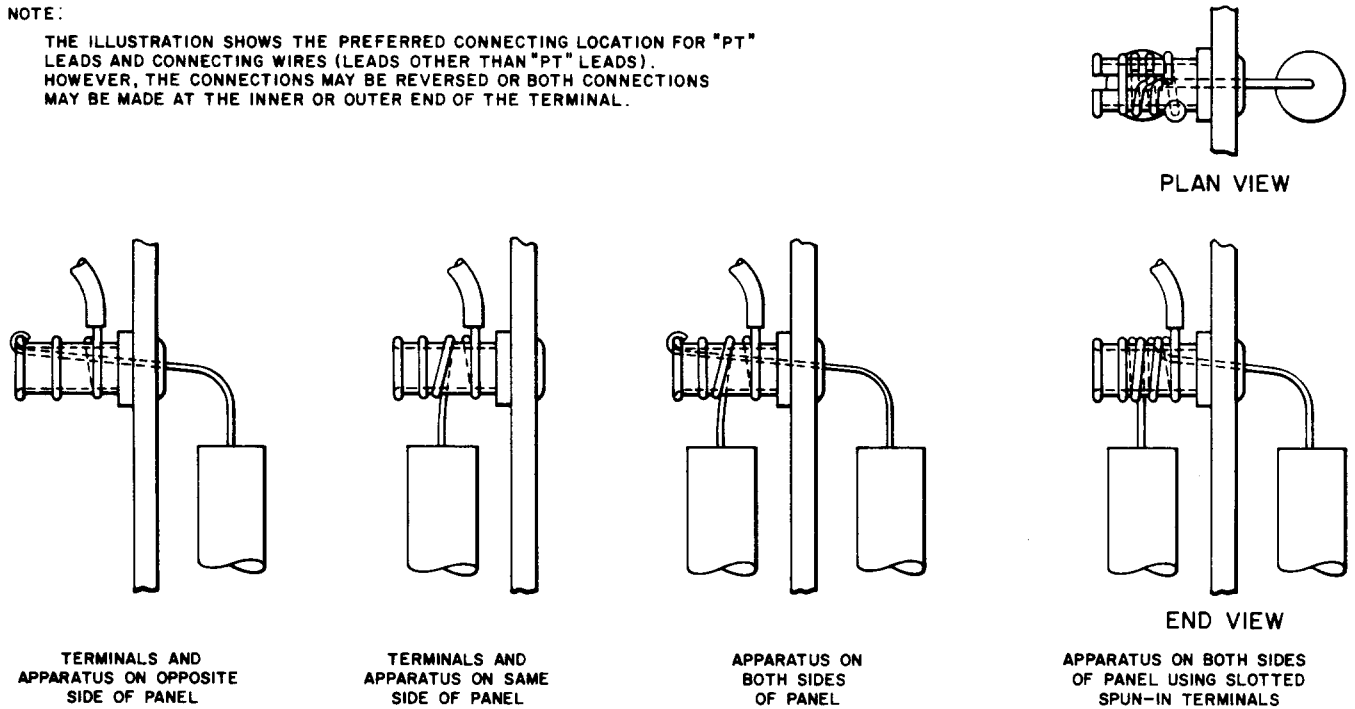

Fig. 12—Plier Connections to Spun-in Terminals (Solder Not Shown)
11.01 When soldering connections to spun-in, stand-off, and similar-type terminals as illustrated in Fig. 12 and 13, completely cover the wire with solder for at least one-half of the circumference of the terminal.
11.02 **Spun-in Terminals:** These terminals are frequently used for mounting pigtail apparatus. The connections shall be made as follows. (See Fig. 12.)